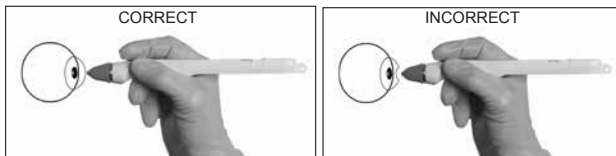

Figure 6 Corneal Applanation
5. The corneal surface needs only to be momentarily contacted. Indentation or additional pressure is not required and may lead to injury to the eye. Refer to Figure 6.
6. Brace the heel of your hand on the patient's cheek for stability while holding the Tono-Pen XL unit perpendicular to and within 1/2 inch of the patient's cornea. Refer to Figure 6 for correct positioning.